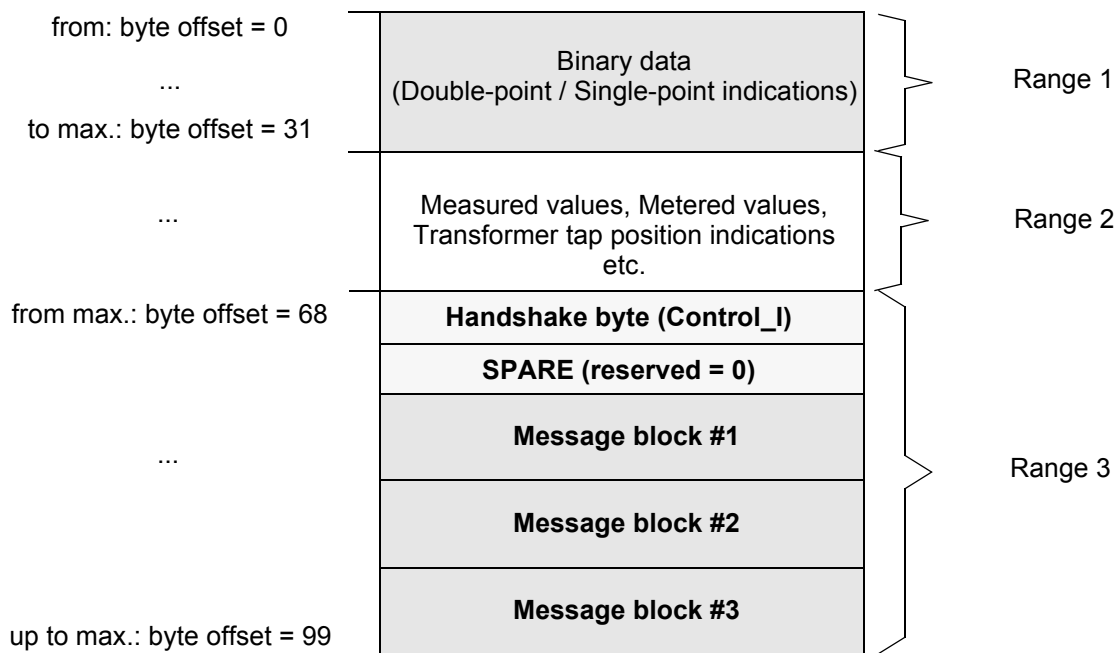

Figure 2-2 Event list: Input telegram with message blocks and handshake byte
- **Only those annunciations of the SIPROTEC device, that are in the "Cyclical range" (ref. to Figure 2-2, "Range 1") of the PROFIBUS-DP telegram in input direction are entered in the event list following a change.**
- The entries in the event list are transmitted to the PROFIBUS-DP master in the message blocks of the PROFIBUS-DP telegram (ref. to Figure 2-2) and must be acknowledged by the master (ref. to chap. 2.5.3).